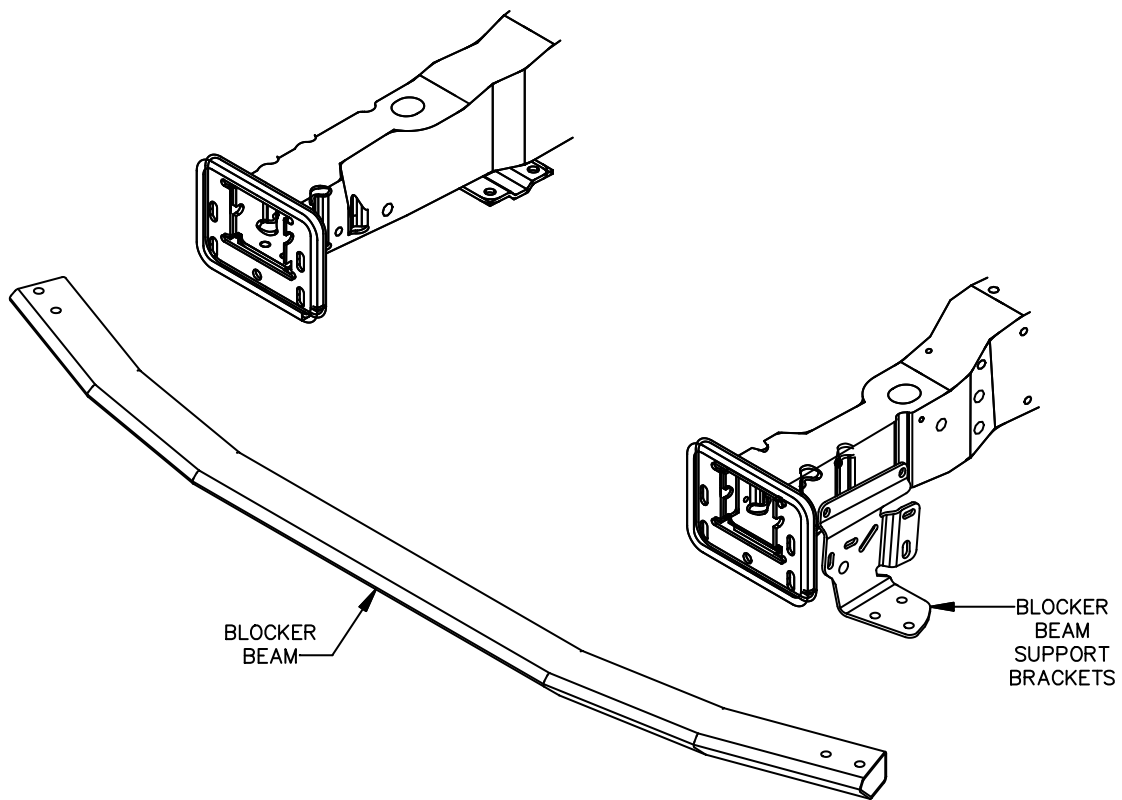

Figure 2
If the vehicle is equipped with the Ford BlockerBeam™ (Refer to Fig. 2), it must be removed. If the vehicle model year is 1999 through 2004, the BlockerBeam™ support brackets should remain on the frame rails. If the vehicle model year is 2005 or later, the support brackets should be removed with the BlockerBeam™. Keep the BlockerBeam™; if PUSH BEAM (62) is ever removed from the truck the BlockerBeam™ must be re-installed.